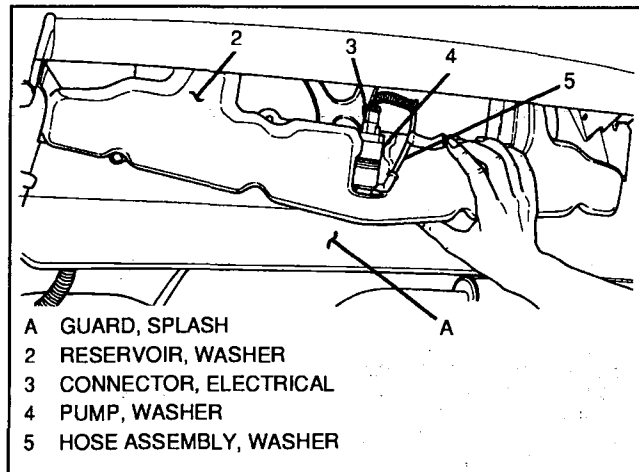

Figure 8 — Washer Reservoir Removal
1. Washer pump (4, Figure 8) in washer reservoir (2).